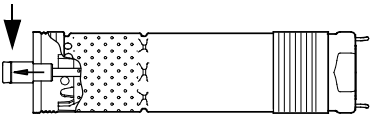

Fig. 5
- 2. Pull the pump shaft out to the position shown in fig. 5.